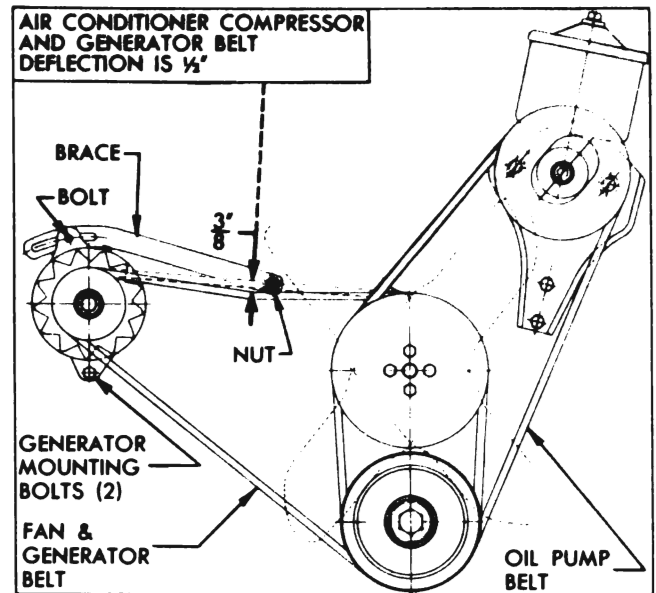

Figure 10-10—Fan Belt Adjustment
- Check fan belt for condition and proper tension (fig. 10-10), and make certain that all generator mounting bracket and brace bolts are tight. A loose fan belt will permit belt slippage, resulting in rapid belt wear and low or erratic generator output. An excessively tight belt will cause rapid belt wear and rapid wear of generator and water pump bearings. **NOTE:** *If belt requires adjustment, first loosen belt so that generator pulley is free, then check pulley for tightness and check generator bearings for freeness of rotation and excessive side play. Tight or excessively worn bearings should be cleaned or replaced.*
4. If 30 amperes cannot be obtained at approximately 1100 RPM of engine check fan belt for proper tension (fig. 10-10). If fan belt is not slipping the generator does not have proper output. Remove generator for bench test (par. 10-24) and make necessary corrections before attempting any adjustment of generator regulator.